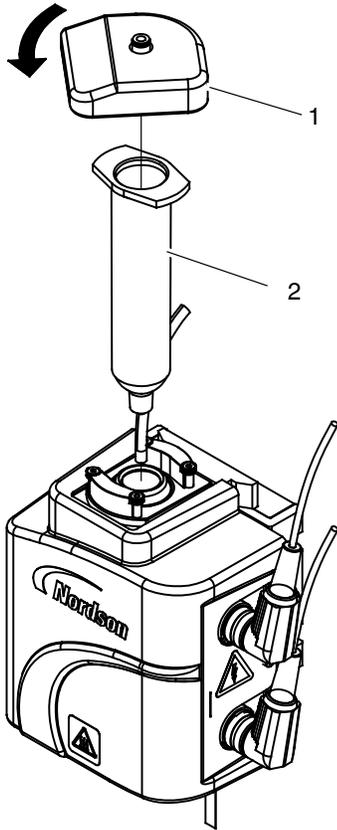

Figure 7-1 Loading a Cartridge
1. See Figure 7-1. Load a flush cartridge in the applicator as follows:
- Remove the air cap (1) and remove and discard the adhesive cartridge (2).